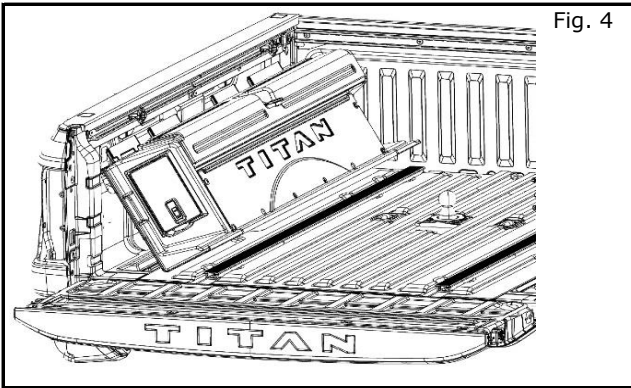

Fig. 4
- 4) Position bin assembly near sidewall of truck box (Figure 4). Angle top of bin assembly and slide in so upper tabs are positioned behind Utili-trac rail.